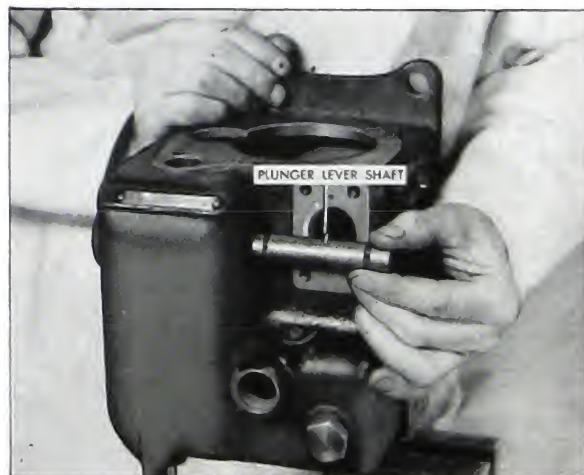

Fig. 5-139. Assembling plunger lever shaft
12. Insert the plunger lever shaft—with the oil grooves placed to match the oil holes in the bushing—in the housing and through the plunger lever. Fig. 5-139.